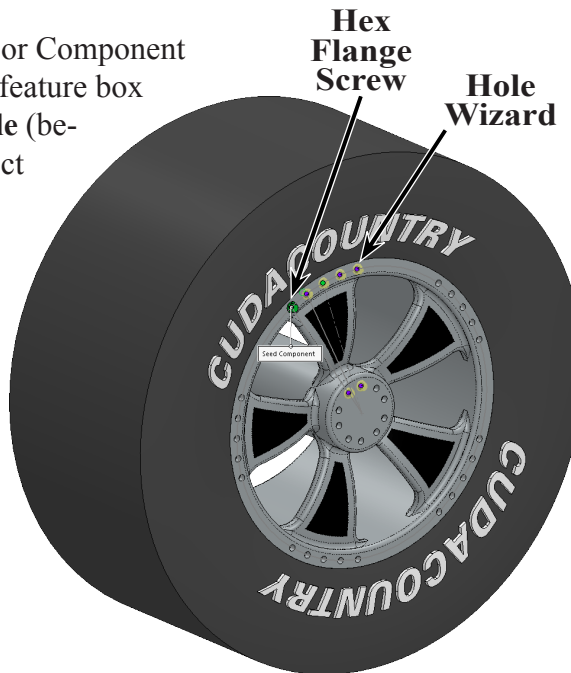
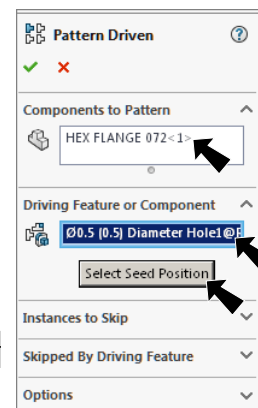

Fig. 16
Fig. 15
Step 2. In the Pattern Driven Property Manager set: under Components to Pattern, **Fig. 15** click **Hex Flange Screw** in assembly, **Fig. 16**
under Driving Feature or Component click in the Driving feature box click **Hole Wizard hole** (behind screw) in Rim to select feature, **Fig. 16**.